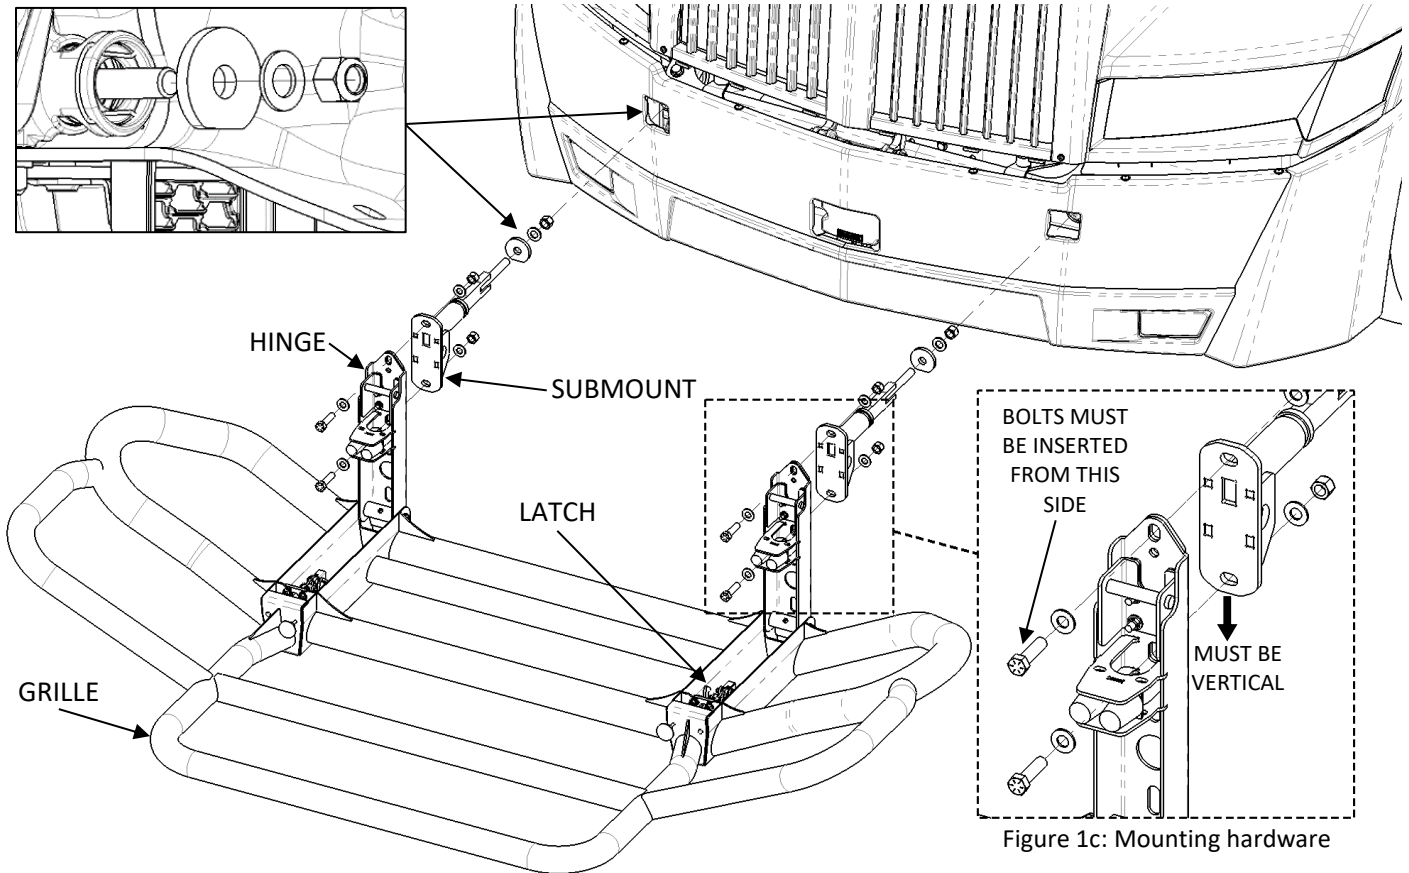

Figure 1a: Grille Guard installation (Your Grille Guard may not be exactly as shown)
4. Open driver side Hinge and lift to driver side Submount. Hand tighten upper hardware shown in Figure 1a (**do not fully tighten**). Repeat for passenger side. **Ensure bolts are inserted from front (Hinge side) as shown in Figure 1c**.